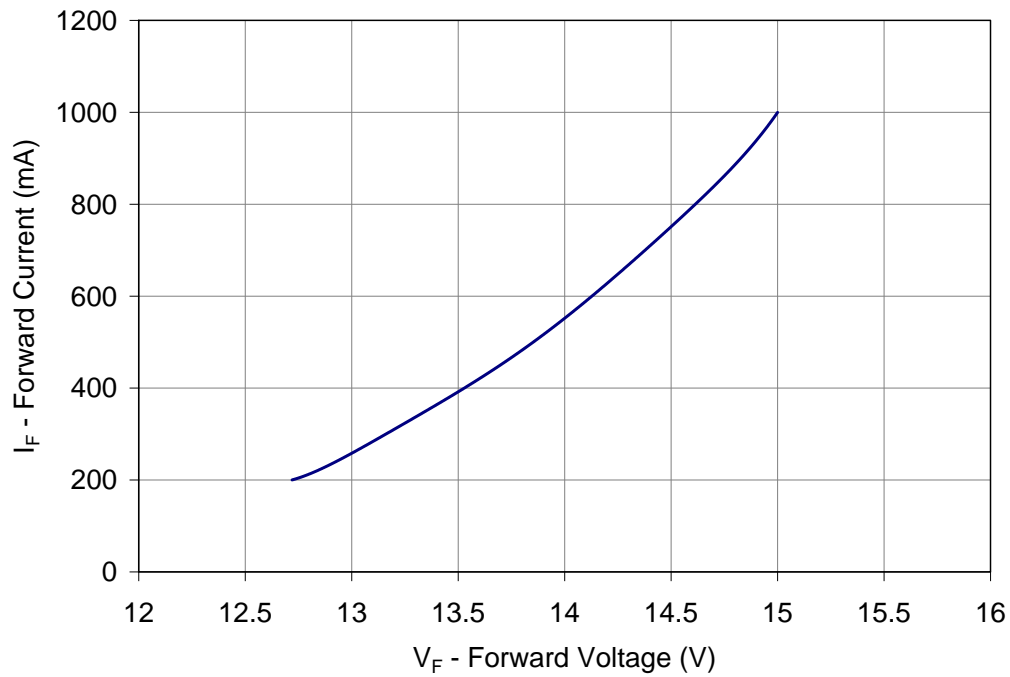

Figure 6: Typical forward current vs. forward voltage @ $T_c = 25^\circ\text{C}$.
3. Refer to Figure 6 for typical dominant wavelength shift over forward current.
- Refer to Figure 6 for typical dominant wavelength shift over forward current.
Note for Figure 6: